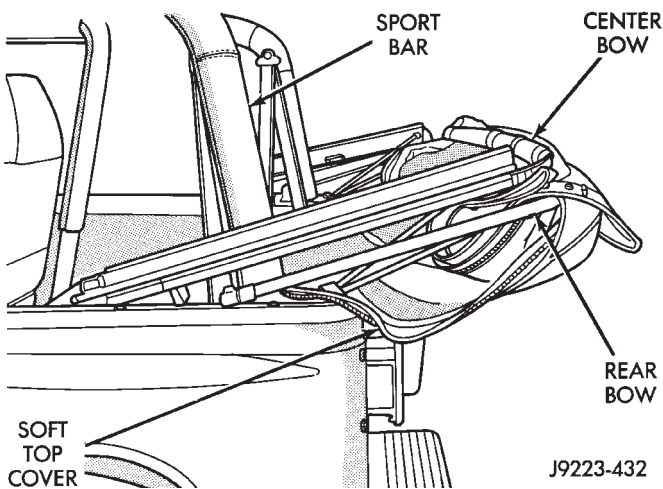

Fig. 112 Sliding Top Cover Rearward
(14) Slide the top cover rearward (Fig. 112). The rear bow legs should move forward and fold under the center bow legs and the upper side retainers.